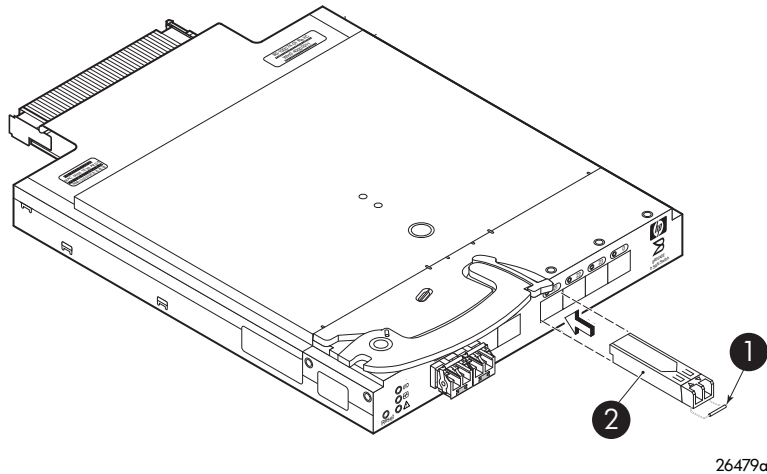

Figure 7 Installing an SFP
2. Orient the SFP with the appropriate port. See Figure 7 and Table 13.